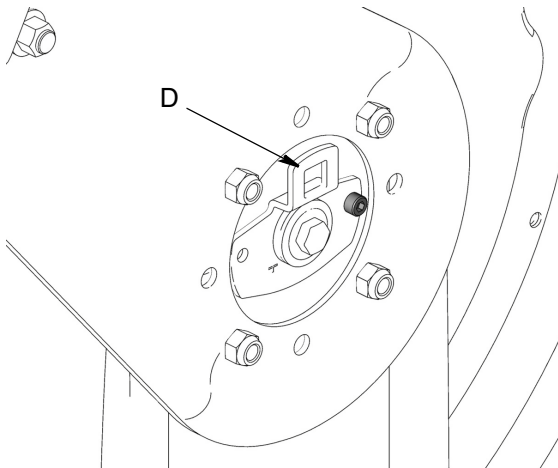

FIG. 15
6. Remove ratchet (C) from opening (D) (FIG. 15).